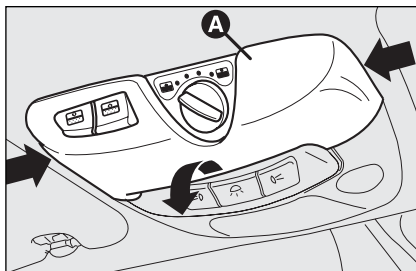

fig. 82
- remove the front ceiling light **A**-fig. 82 pressing on the sides of the plastic shape as shown by the arrow;